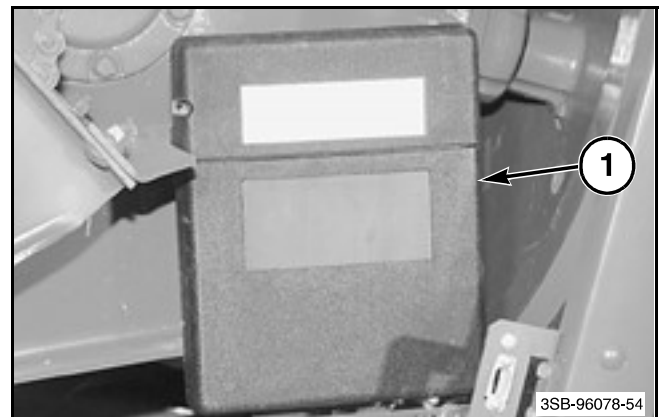

FIG. 2
FIG. 2: The Operator's Manual container (1) is located under the access panel on the right-hand side of the baler. Keep the Operator's Manual with the baler at all times. Put the maintenance manual in the Operator's Manual container.